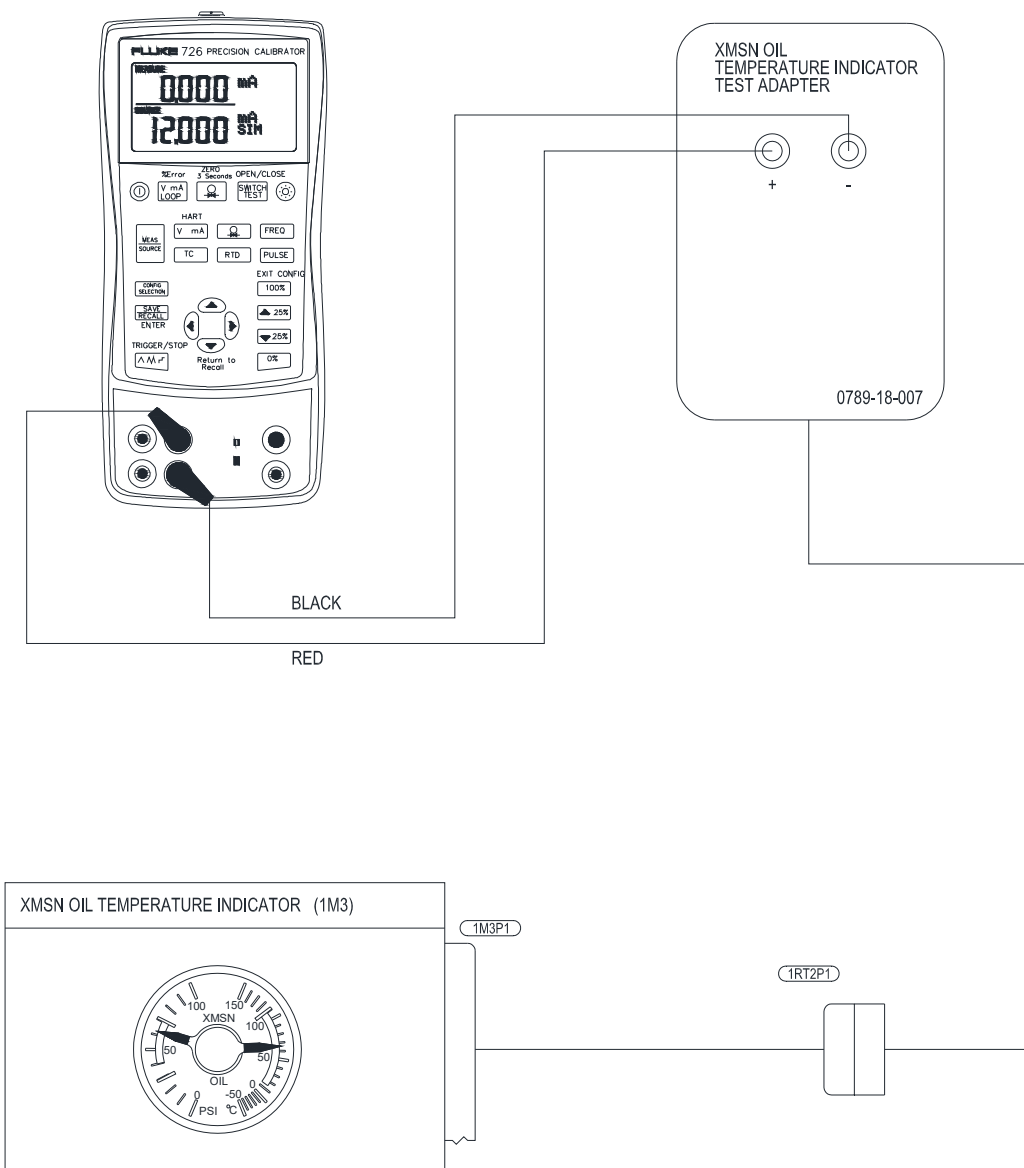

Figure 95-29: Functional Check Setup for Transmission Oil Temperature Indicator
1. Prepare the functional check setup, as shown in Figure 95-29.
5. Connect the Test Adapter, 0789-18-007-1, to the electrical connector (1RT2P1), as shown in Figure 95-29.